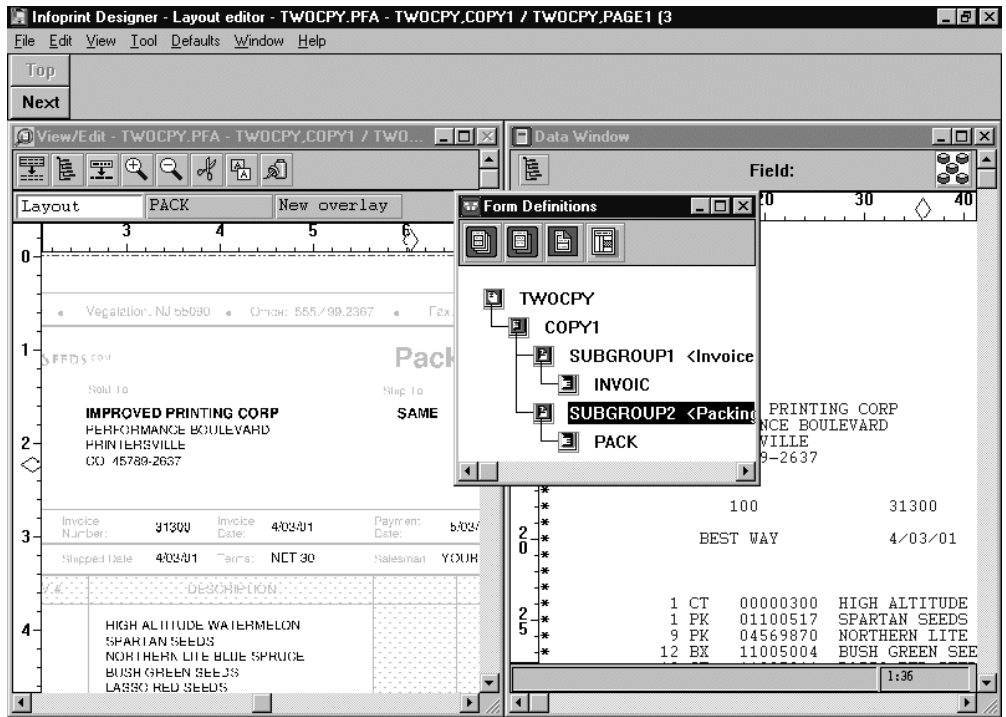

Figure 22. Verifying subgroup
8. Before you complete your project, it is a good idea to check that you have set up the suppression correctly. Open up both the View/Edit window, and the Form definition window. Activate the new Packing Slip copy group by clicking on it on the Form definition window. Then click on a blank part of the View/Edit window. The data will be reloaded, and you should see the packing slip overlay with the description fields, but not the prices. Your screen should look something like Figure 22.